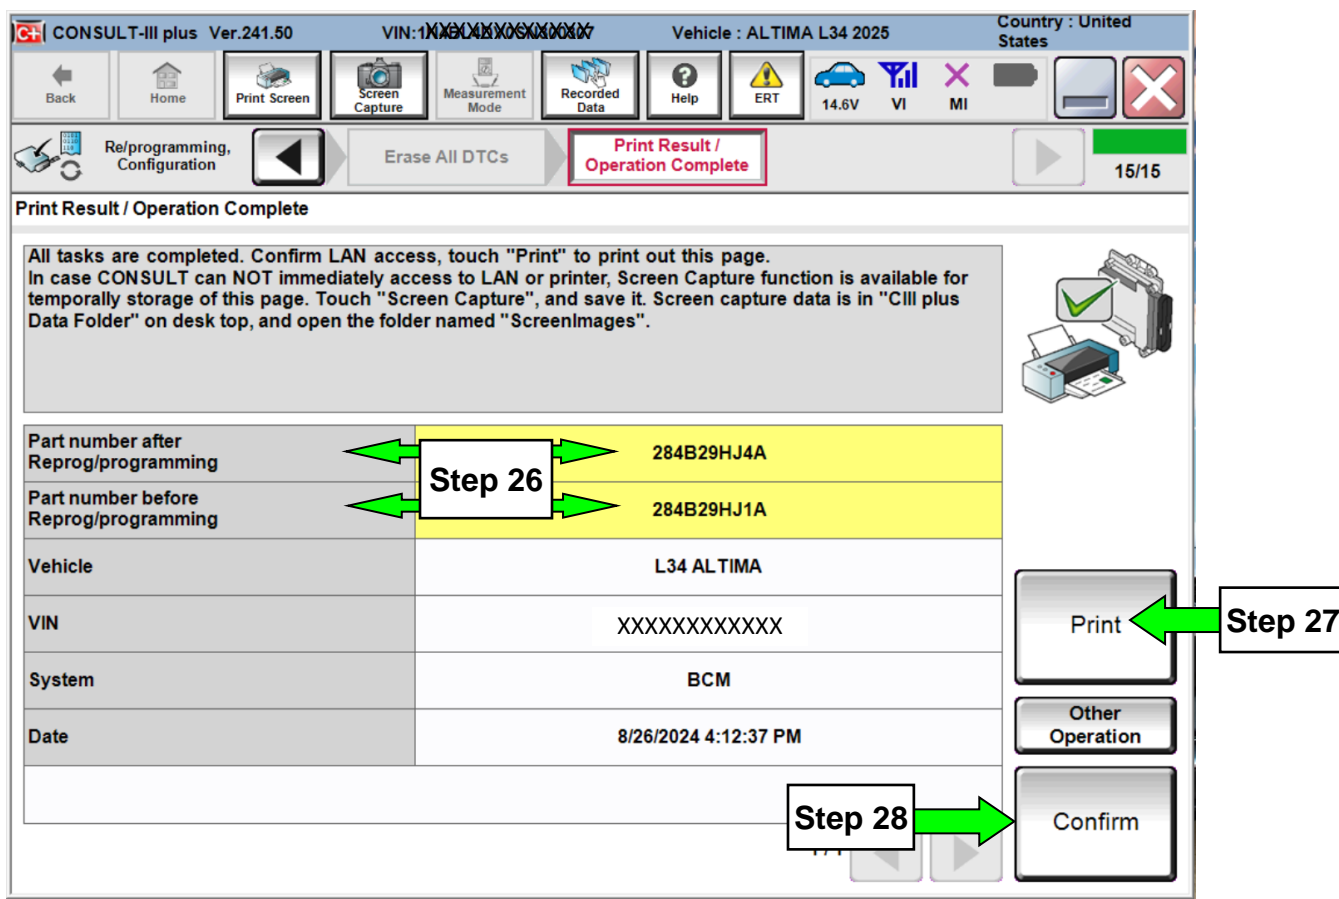

Figure 20
25. When the entire reprogramming process is complete, the screen shown in Figure 20 will display.
27. Print a copy of this screen (Figure 20) and attach it to the repair order for documentation.